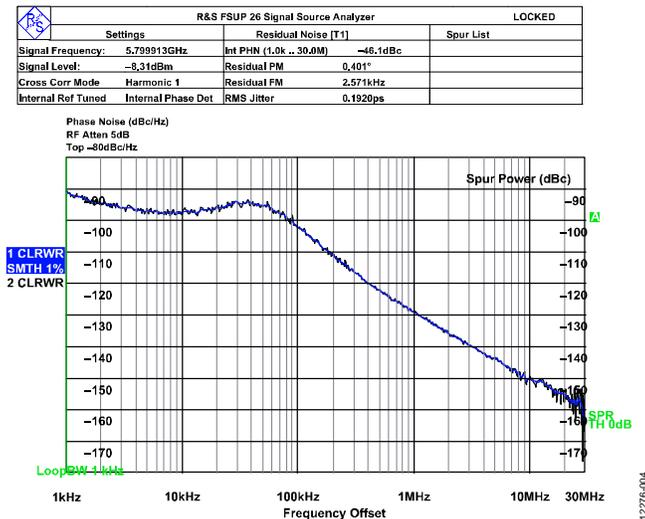

Figure 4. Fractional-N Phase Noise and Spur Performance, VCO_I/O, $VCO_{OUT} = 5800$ MHz
11. Figure 4 shows a phase noise plot of the SMA VCO_I/O, $VCO_{OUT} = 5800$ MHz.